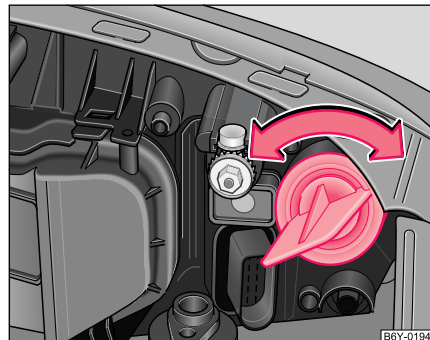

Fig. 158 Structure of the light bulb of the turn signal light
- Screw out the lamp holder and light bulb by turning it anti-clockwise ⇒ fig. 158.